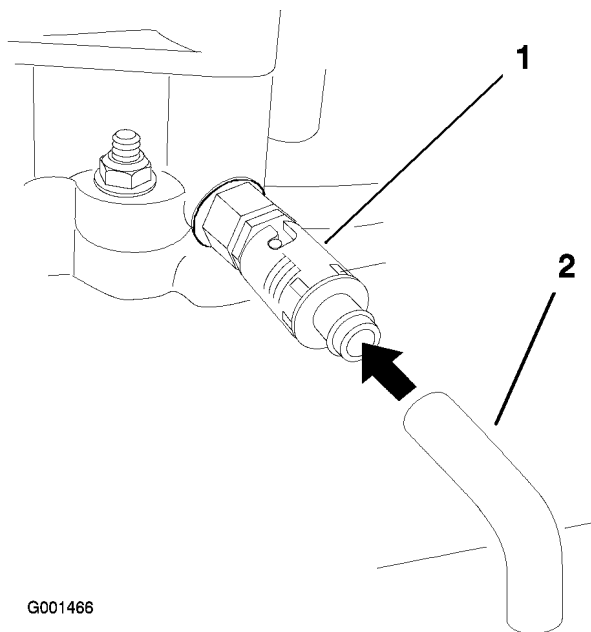

Figure 31
6. Place a pan below the drain hose. Rotate oil drain valve to allow oil to drain (Figure 31).
8. Remove the drain hose (Figure 31).